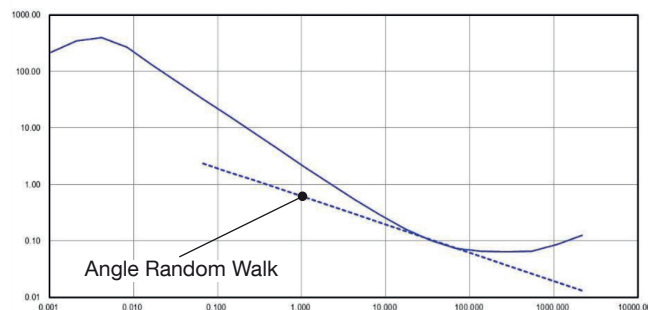

Figure 8.2 Derivation of Angle Random Walk and Bias Instability
Figure 8.2 shows a general Allan Variance graph as a guide for calculating bias instability and Angle Random Walk. The Angle Random Walk is calculated as follows:
- The Angle Random Walk is this value, in units of degrees/hour, divided by 60. In Figure 8.2, the line intercepts the 1 second correlation time at 0.57°/hr, giving an Angle Random Walk of 0.01°/√hr.
The bias instability is at the minimum part of the Allan Variance plot, usually between correlation times of 10s and 100s. In Figure 8.2, the bias instability is approximately 0.05°/hr.